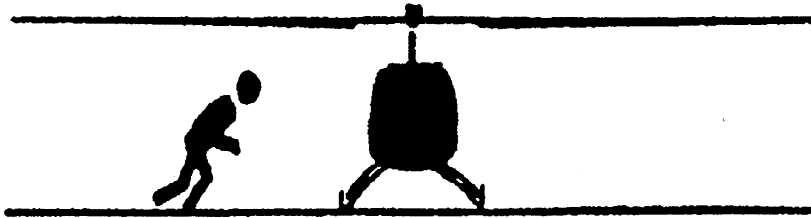

FIGURE 4. CROUCH UNDER THE MAIN ROTOR
- (1) Stay away from the rear of the helicopter.
- (2) Crouch low before getting to and going under the main rotor. (See figure 4.)